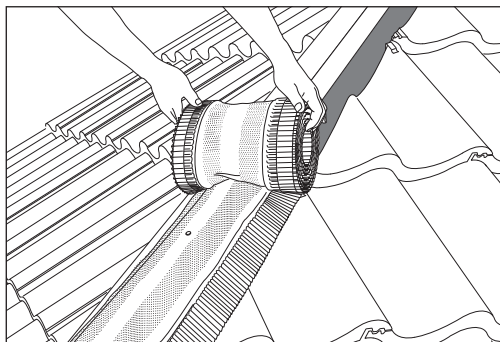

Fig 8 Roll out HipFast roll
- 7 Starting from eaves, roll out HipFast roll centrally over hip rafter battens, and secure in position using well spaced felt nails, leaving a distance of 100mm to oversail the hip/ridge apex. Joints along hip should be lapped by 100mm to drain water down roof (Fig 8).